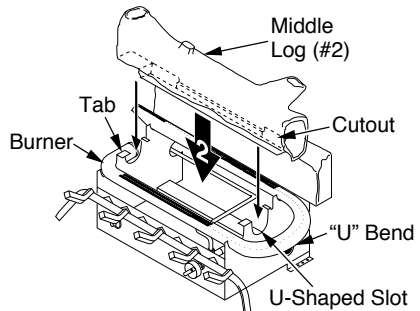

Figure 21 - Installing Middle Log (#2)
2. Place the base of the middle log (#2) in the U-shaped slots of the grate base in front of the back log. The cutout on the right of the middle log should fit over the burner (see Figure 21). Make sure the front of the middle log is resting on the tabs of the grate base and the cutout area is centered over the burner "U" bend.